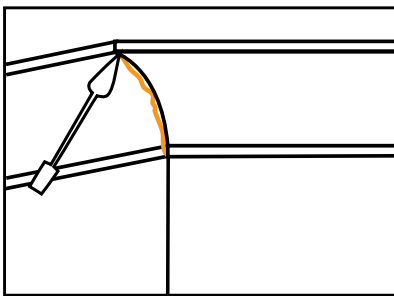

FIGURE 64 Mitres
- Straight stop along cornice edge at wall and ceiling. Finish mitres using a small cornice tool [Figure 64]